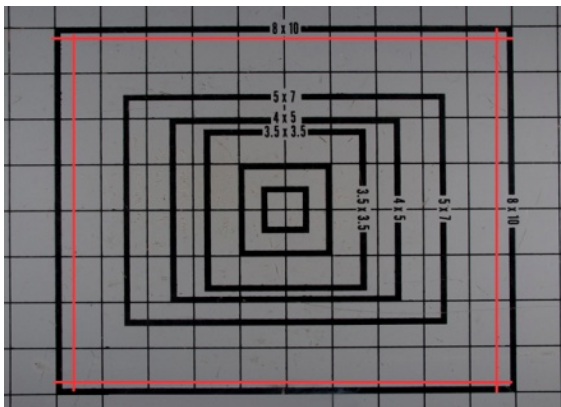

Figure 2. Minimal Distortion
- From the resulting images, identify the focal length where no visible distortion occurs. Figures 2, 3 and 4 below demonstrate what you should be looking for.